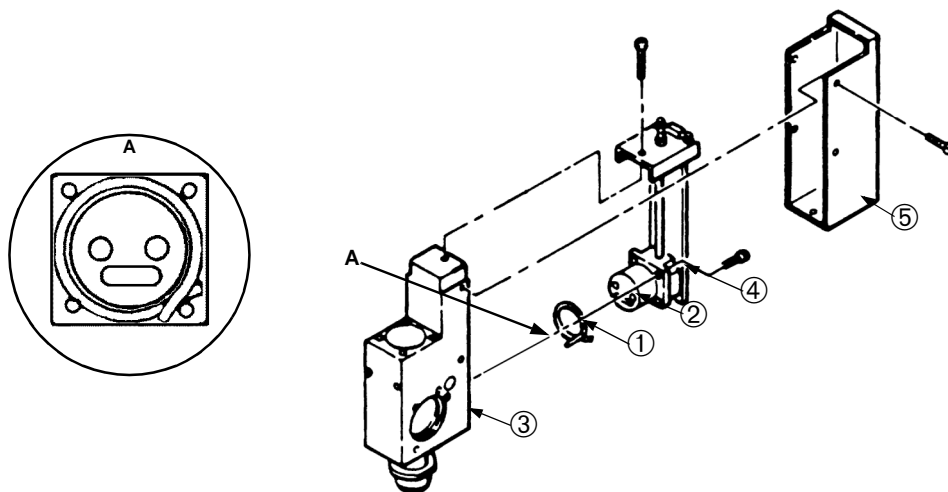
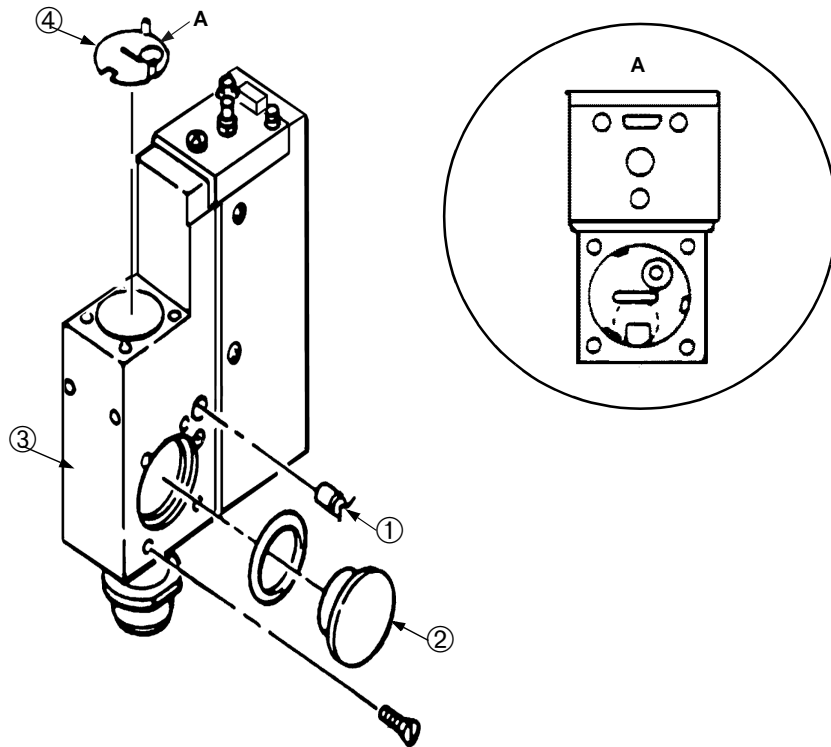
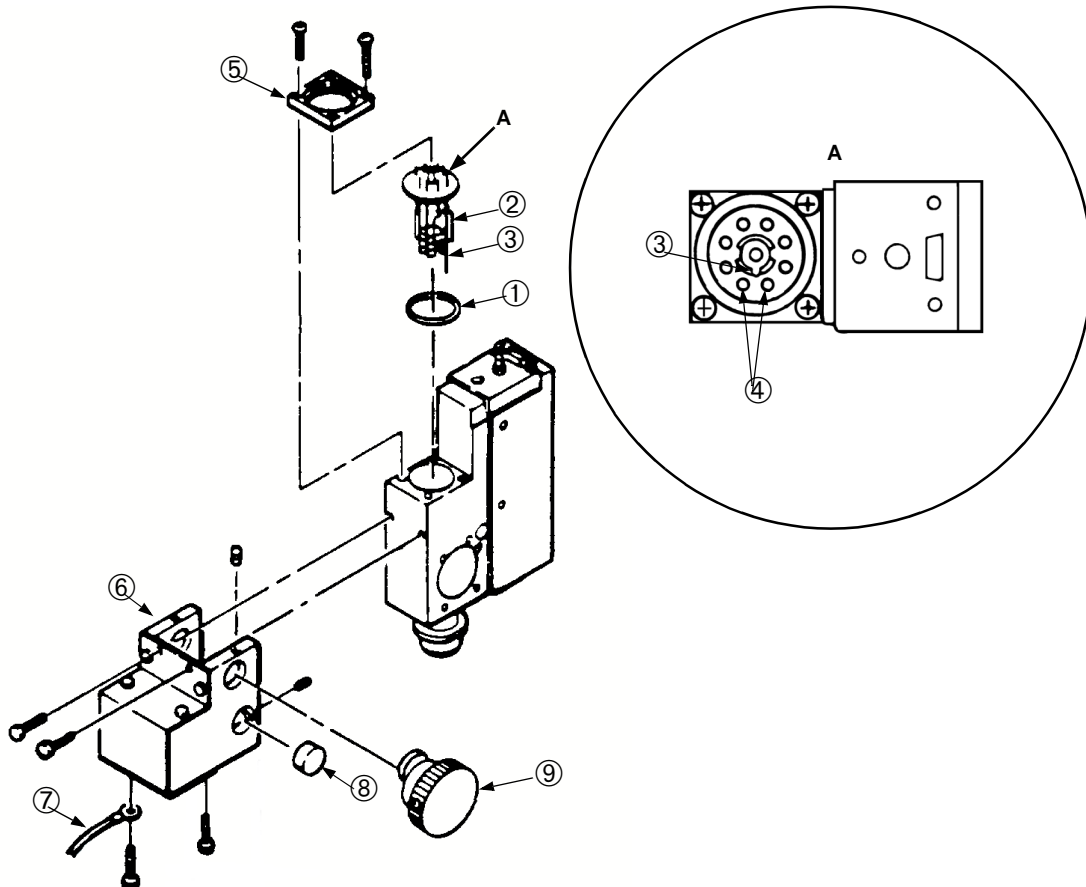

Figure 4-4 Spectrometer Tube Reassembly
Figure 4-5 Spectrometer Tube Reassembly (Ground Slit Plate)
Figure 4-6 Spectrometer Tube Reassembly (Magnet Assembly)
Refer to Figure 4-4 for step 1 through step 5, to Figure 4-5 for step 6 through step 8, and Figure 4-6 on page 4-19 for step 9 through step 13.
1. Place a new metal seal ① on the collector housing assembly ② with the ends of the seal crossed under one of the screw holes (Figure 4-4, View A).
2. Mount the collector housing assembly to the spectrometer tube body ③ with the four socket head cap screws, sized 8-32.
6. Put the heater cartridge ① back in its cavity (Figure 4-5).
7. With the new O-rings on each of the two deflection pole pieces ②, insert the pole pieces into the spectrometer tube body ③, tighten the four slotted screws on each side of the spectrometer tube, and note the positions of both the roll pin in the body and the notch in the pole piece flange used for alignment.
8. When installing the ground slit plate ④, be sure that the snap prongs are facing up, then align the slit at 90° with the side wall of the spectrometer tube, and concentrically align the circular hole in the plate with the smaller guide hole in the bottom of the ion source cavity (Figure 4-5, View A).
9. Wipe the new O-ring ① and mating surfaces with a clean, lint-free cloth and place the new ion source ② in its cavity (Figure 4-6 on page 4-19) as follows:
- ❑ Place the locating pin ③ approximately in the center of the guide hole.
- ❑ Ensure that pins 1 and 8 ④ are parallel to the side wall of the spectrometer tube as shown in Figure 4-6 on page 4-19, View A.
- ❑ Tighten the flange cap ⑤ evenly and firmly with the four Phillips head screws.